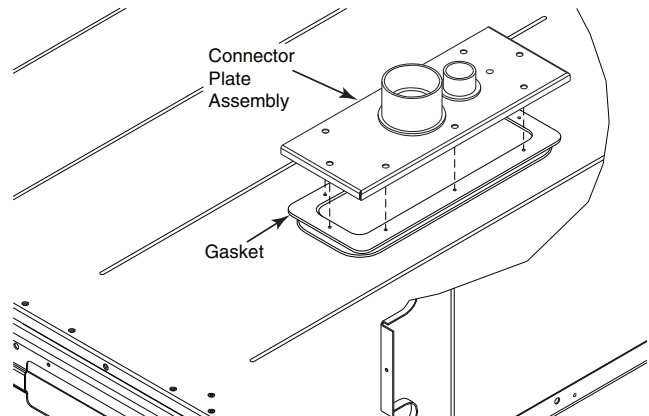

Fig. 39 — Completing Installation of Thru-the-Base Option
3. Place the gasket over the embossed area in the basepan, aligning the holes in the gasket to the holes in the basepan. See Fig. 39.